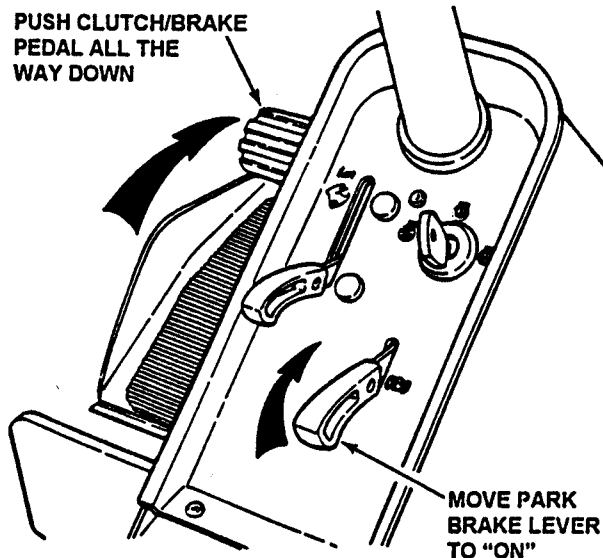

FIGURE 2.13
1. Engage park brake by pushing clutch/brake pedal all the way DOWN and moving the park brake lever to the ON position. While holding the park brake lever ON, release clutch/brake pedal to set park brake. See Fig. 2.13.